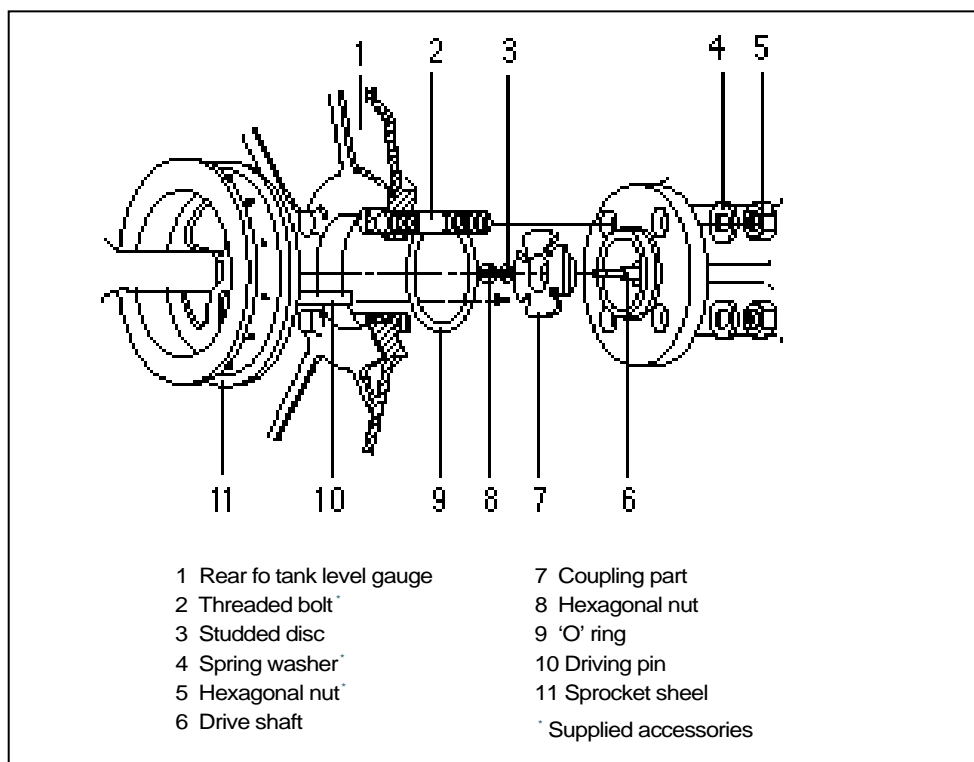

Fig. 4 Flange-mounting the transmitter
- Before mounting remove transmitter cover. Turn drive shaft (6. Fig. 4) until both worm wheel screws are accessible.
- Flange the transmitter to the tank level gauge using the accessories shown in Fig. 4. In doing so, flange the transmitter such that the housing section containing the alarm contacts and the terminal box form a vertical or horizontal line.
- Ensure the driving pin engages properly. Do not use force in joining the coupling together again. Tighten hexagonal nuts (5).